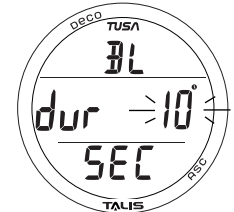

Fig. 42 - SET BACKLIGHT DURATION
**SET BACKLIGHT DURATION**, information includes (Fig. 42):